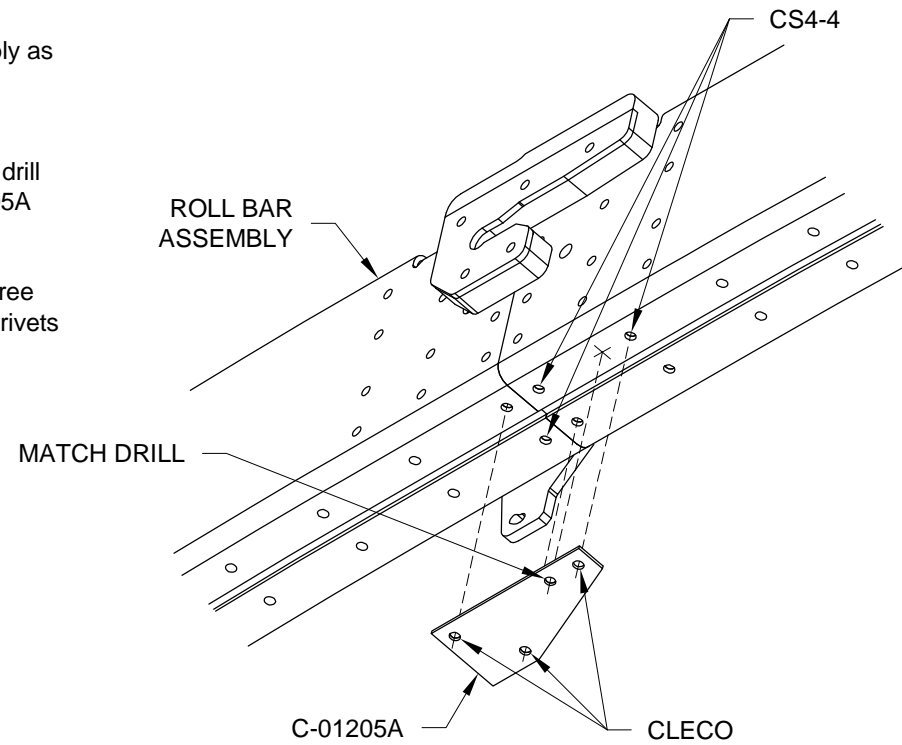

FIGURE 1: DRILLING FOR THE CANOPY LATCH BLOCK
Step 3: Machine countersink and then rivet the three holes in the Roll Bar Assembly for the flush head rivets called-out in Figure 1.